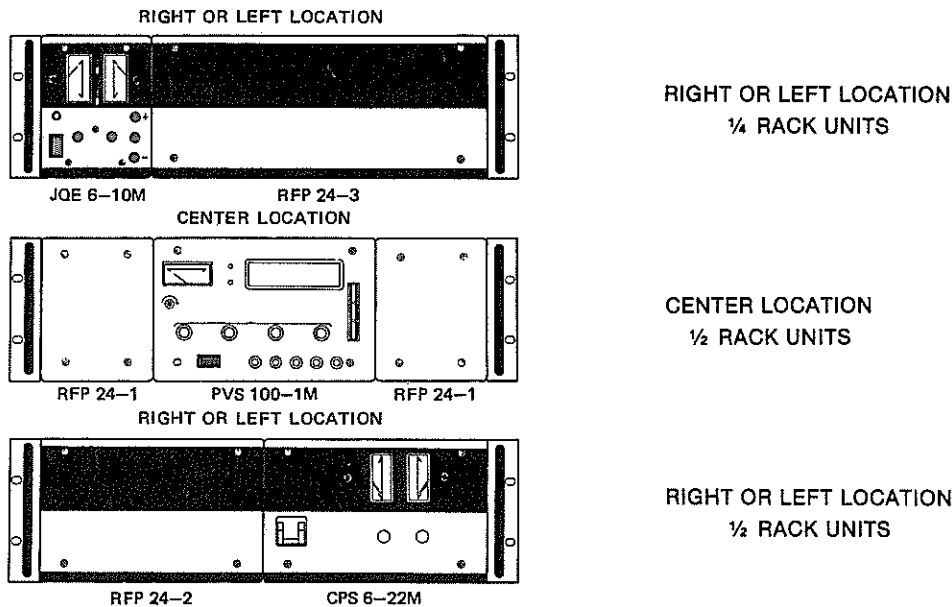

FIG. 2 SAMPLE MOUNTING CONFIGURATIONS.
INSTALLATION OF KEPCO EQUIPMENT INTO THE RA-24 RACK ADAPTER (Refer to FIG. 2)
The bottom shelf of the RA-24 Rack Adapter is predrilled for mounting a maximum of either two (2) half-rack or four (4) quarter-rack models. A variety of mounting configurations are possible, some of which are indicated in FIG. 2. Unused front panel spaces in the RA-24 can be covered with (optional) filler panels, listed in the ACCESSORY paragraph. Heavy loads (above ≈ 75 lbs.) should be supported by horizontal brackets across the bottom surface of the RA-24. Suitable support brackets, which mount directly under the lower front edge of the RA-24, can be obtained from Kepco. (See ACCESSORY paragraph).
INSTALLATION OF KEPCO EQUIPMENT INTO THE RA-24B RACK ADAPTER (Refer to FIG. 2)